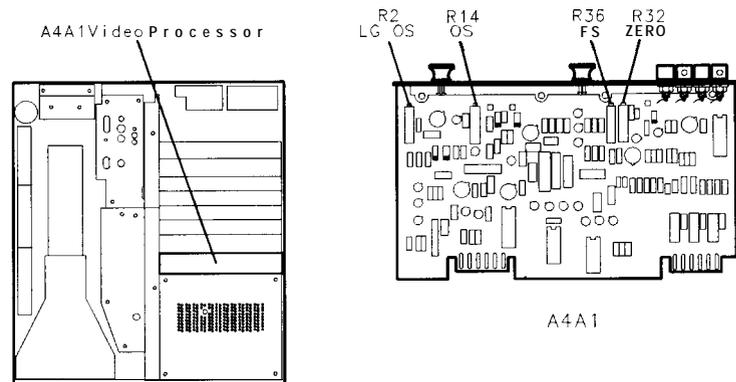

Figure 3-36. Location of Video Processor Adjustments
10. Adjust A4A1R14 OS for a DVM indication of 0.000 ± 0.003 Vdc. See Figure 3-36 for the location of the adjustment.
21. Adjust A4A1R2 LG OS for DVM indication of $+0.100 \pm 0.001$ V dc greater than the DVM indication recorded in step 19. See Figure 3-36 for location of adjustment.